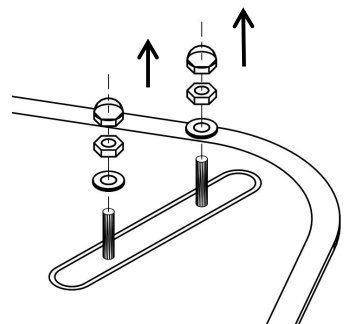

Figure1
① Ensure the bath is on a soft surface to protect against scratches.
② Take off the plastic covers of screws and unscrew nuts and washers from the bath(these are pre-assembled on bath). See Figure 1